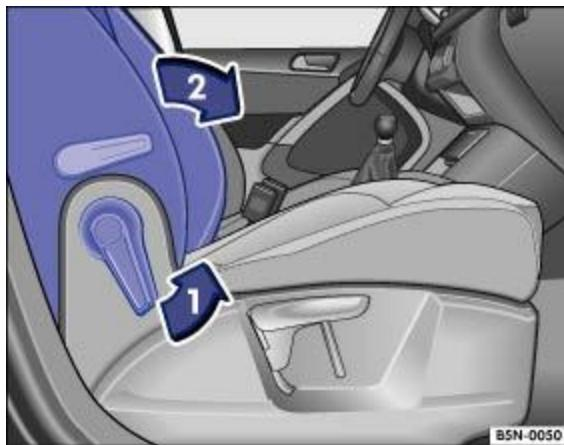

Fig. 70 Front passenger seat: folding backrest forwards.
Release the front passenger seat backrest in the direction of the arrow ⇒ Fig. 70(1).
Fold the front passenger seat backrest forwards in the direction of the arrow ⇒ Fig. 70② until it is horizontal.
To fold back, release the front passenger seat backrest again ⇒ Fig. 70① .